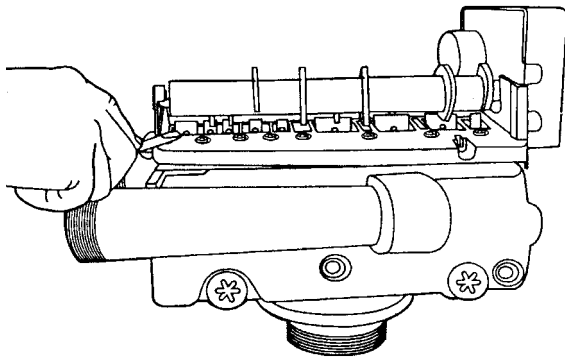

Figure 11
3. Remove cover and with screwdriver, relieve tank pressure by pushing open valve No. 7 (rear flapper) on control as shown (Figure 11).
3. Relieve system pressure by opening valve No. 7 (at rear) with a screwdriver (Figure 11).
2. Relieve pressure by opening the Backwash Drain Valve (the seventh back from the control) with a screwdriver (Figure 11).